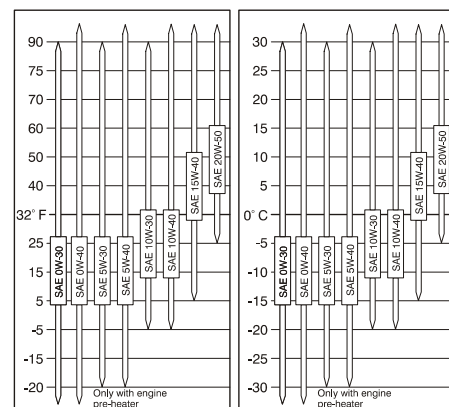

Figure 3-78. Engine Oil Viscosity
7. Pour in new engine oil. Refer to Section 1 for capacity and Figure 3-78., Engine Oil Viscosity.